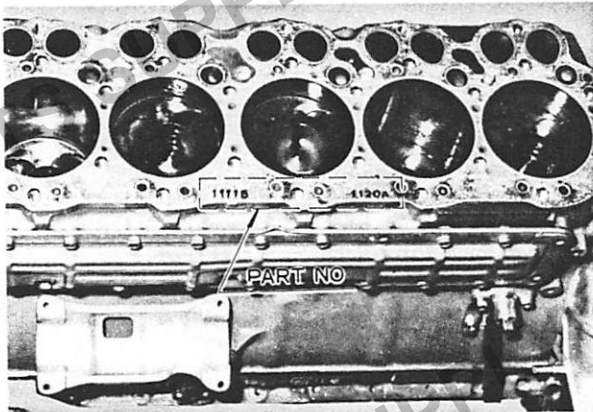

Fig. 3-2-40 Ensuring part number
2. Mount cylinder head gasket with the side stamped part No.(11115-1121) upwards. (see Fig. 3-2-40). Gasket should be kept free from oil or water.